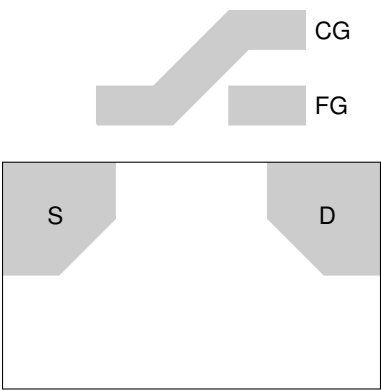

Figure 5.11: Schematic of a flash floating-gate cell.
**Flash** memory is used as program memory in the ATmega328P. It uses floating-gate transistors, one of which is shown in Figure 5.11 in "NOR" architecture. CG stands for control gate, and is where control signals are asserted. FG stands for floating gate, and is where electrons are either injected or removed to store data. S stands for source, which is generally the low potential (or ground) connection of a transistor. D is the drain, which is generally the high potential connection of a transistor.